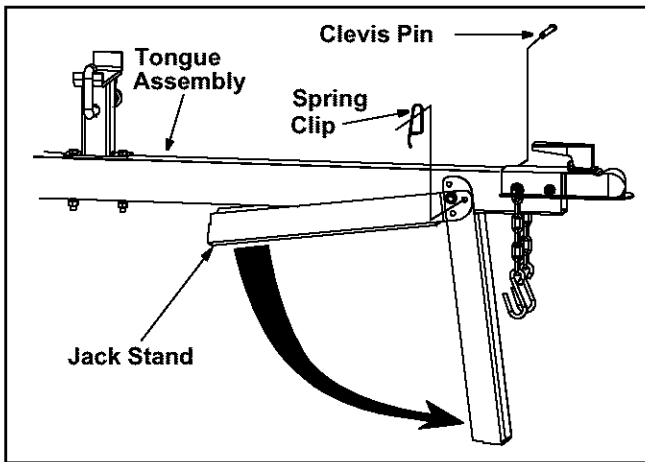

Figure 2
- Remove the spring clip and clevis pin from the jack stand. Pivot the jack stand to the operating position and secure with spring clip and clevis pin. See Figure 2.